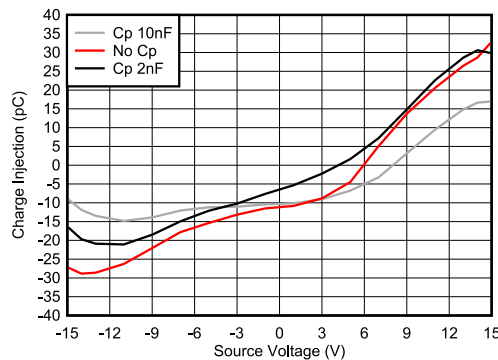

Figure 8-3. Charge Injection Compensation
The TMUX6219 contains specialized architecture to reduce charge injection on the source (Sx). To further reduce charge injection in a sensitive application, a compensation capacitor (Cp) can be added on the drain (D). This will ensure that excess charge from the switch transition will be pushed into the compensation capacitor on the drain (D) instead of the source (Sx). As a general rule, Cp should be 20× larger than the equivalent load capacitance on the source (Sx). Figure 8-3 shows charge injection variation with source voltage with different compensation capacitors on the Drain side.